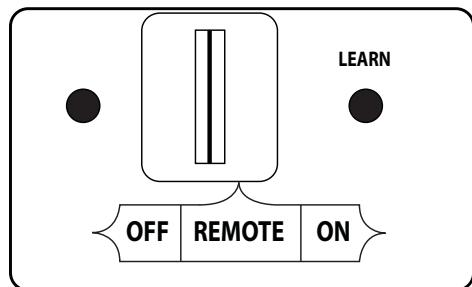

Fig. 27-2 Remote receiver (OFF for Manual Light)
- Ensure the pilot is burning. Then locate the 3-position switch on the remote receiver (see Fig. 27-2), and slide the switch to the **OFF** position.